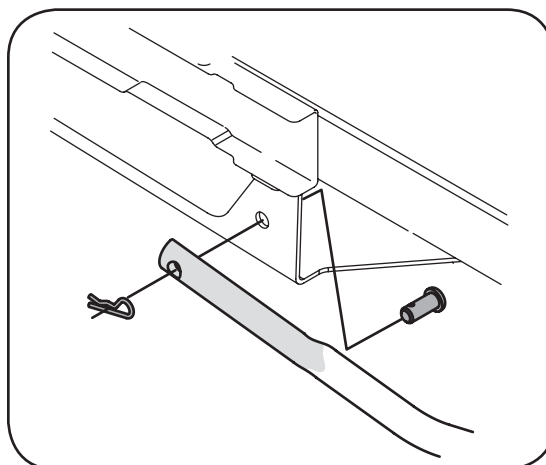

Figure 6-9
1. Secure the left support tube to the front of the undercarriage assembly with the clevis pin and hairpin clip removed earlier. See Fig. 6-9.